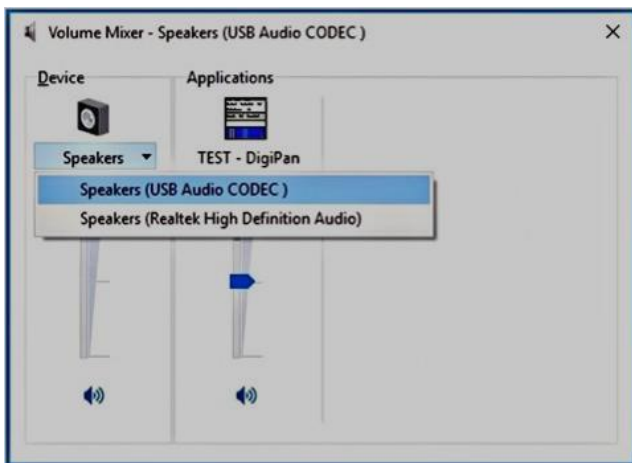

Figure 5 ◊ Volume Mixer selection
- In the Volume Mixer window that opens, click the drop-down menu below the speaker icon and select "Speakers (USB Audio Codec)" as shown below in Figure 5.